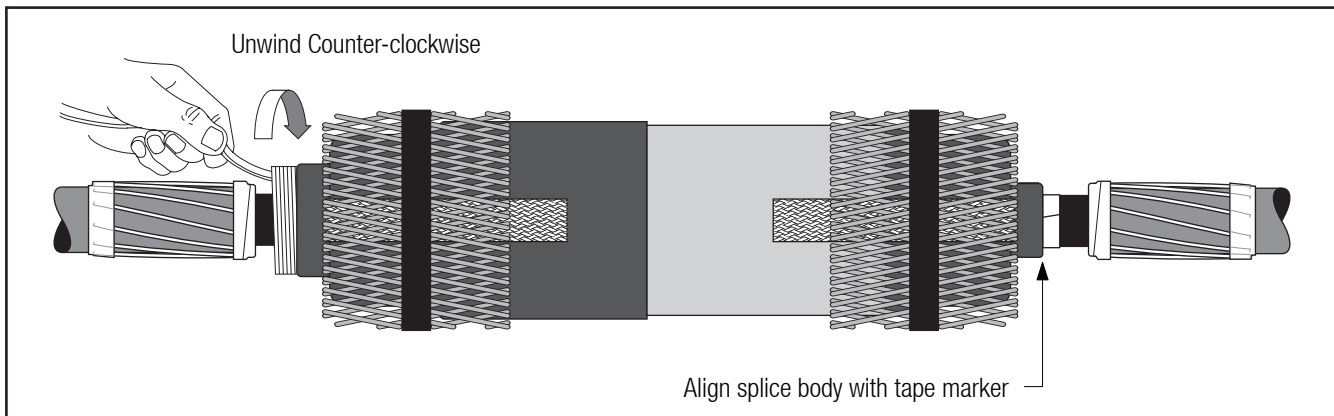

Figure 15
4.5 Position the splice body over connector area, aligning end of the splice body (not the core) at the center of the tape marker. **Slowly** start to remove the splice core by pulling and unwinding the loose core end counterclockwise, allowing only 1/4" (6 mm) of the splice to shrink onto the tape marker. Carefully slide the splice body off the tape marker by pulling and twisting until the entire tape marker is exposed. Continue removing the core to complete the splice body installation (Figure 15).